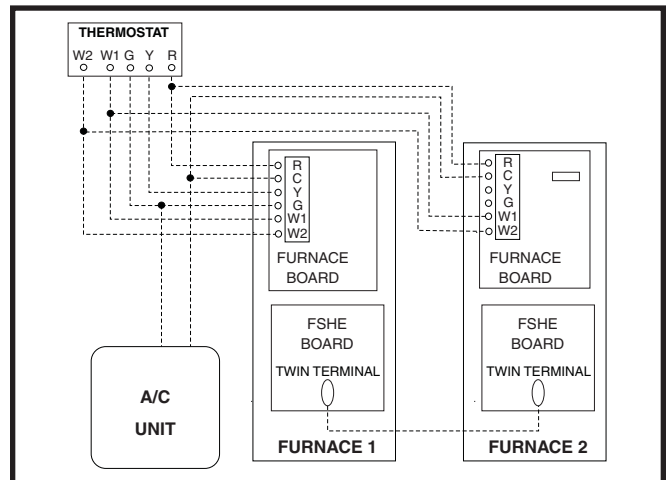

**Figure 25. Line Voltage Field Wiring**
**IMPORTANT NOTE:** An electrical disconnect must be installed readily accessible from and located within sight of the furnace. See Figure 25 (page 26) or the wiring diagram label inside of the control door. Any other wiring methods must be acceptable to authority having jurisdiction.
**IMPORTANT NOTE:** Proper line voltage polarity must be maintained in order for the control system to operate correctly. Verify the incoming neutral line is connected to the white wire and the incoming “hot” line is connected to the black wire. The furnace will not operate unless the polarity and ground are properly connected as shown in Figure 25.
The operating sequences for the heating, cooling, and fan modes are described below. Refer to the field and furnace wiring diagrams: (Figures 21 - 23, page 24), (Figures 32 - 35, pages 42 - 45) and (Figure 25, page 26).